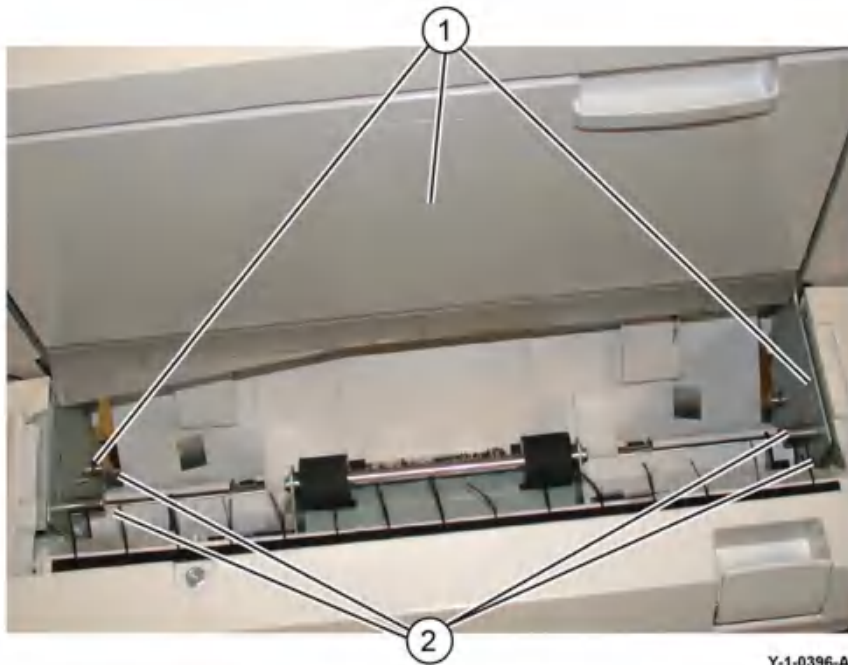

Figure 4 Booklet maker assembly removal
4. Lift the booklet maker assembly (1) off the four locating pins (4), then remove, Figure 4.